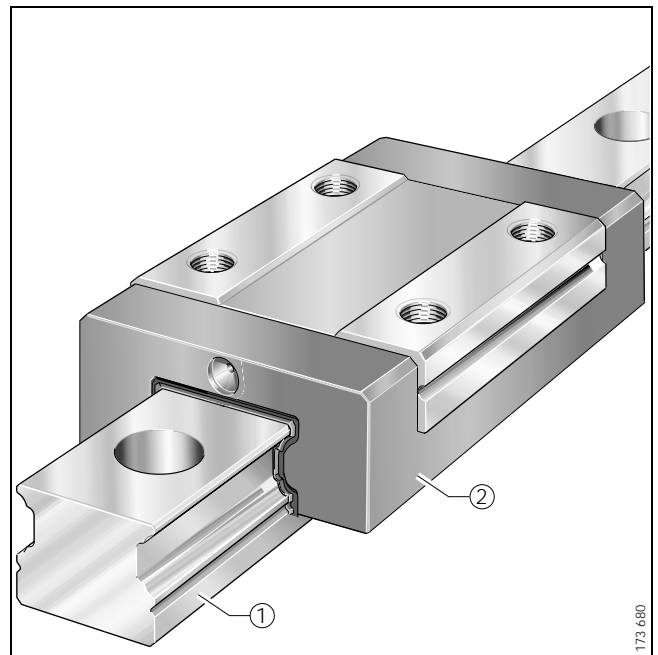

Figure 1 · Delivered condition – guideway and carriage
Guideways and carriages are supplied assembled. At least one carriage ② is located on one guideway ① (Figure 1).